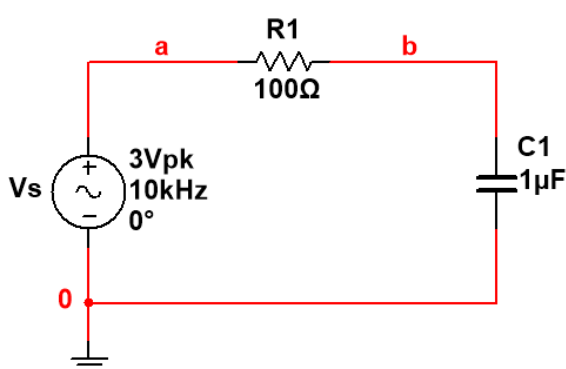

Fig.B.1.1: Series RC circuit
1. Measure the practical value of the resistor (R) using DMM and note down the value in Tables 1.1, 1.3 and 1.5. Use the measured values in all your calculations.
2. Measure the practical value of the capacitor (C) using an LCR meter and note down the values in Tables 1.1, and 1.5. Do the same for the inductor (L) and note down the values in Tables 1.3 and 1.5.
3. Construct the circuit shown in Fig.B.1.1 on the bread board. Connect Channel 1 of the oscilloscope across the source  $V_S$  (positive red port to node 'a' and negative black port to node '0' i.e. ground). Connect the channel 2 at node 'b' (positive red port to node 'b' and negative black port to node 0 i.e. ground).